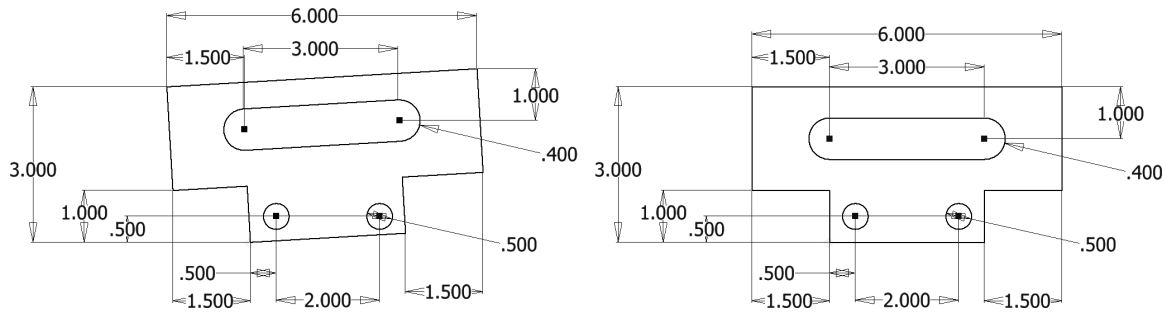

Figure 2.95
- 19** Drag the top-right endpoint of the upper horizontal line up. The sketch will be rotated slightly as shown in Figure 2.95 left.
- 20** Apply a horizontal constraint to the lower horizontal line, and this will fully constrain the sketch as shown in Figure 2.95 right. Reposition the dimensions as needed.